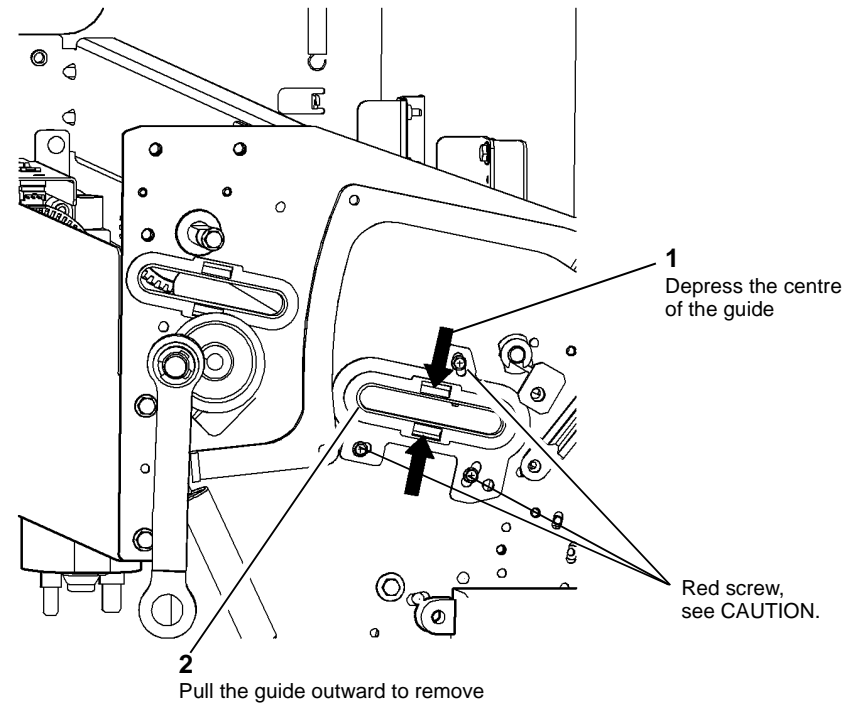

Figure 4 Support guide removal
8. Figure 4, remove the support guides (4 places).